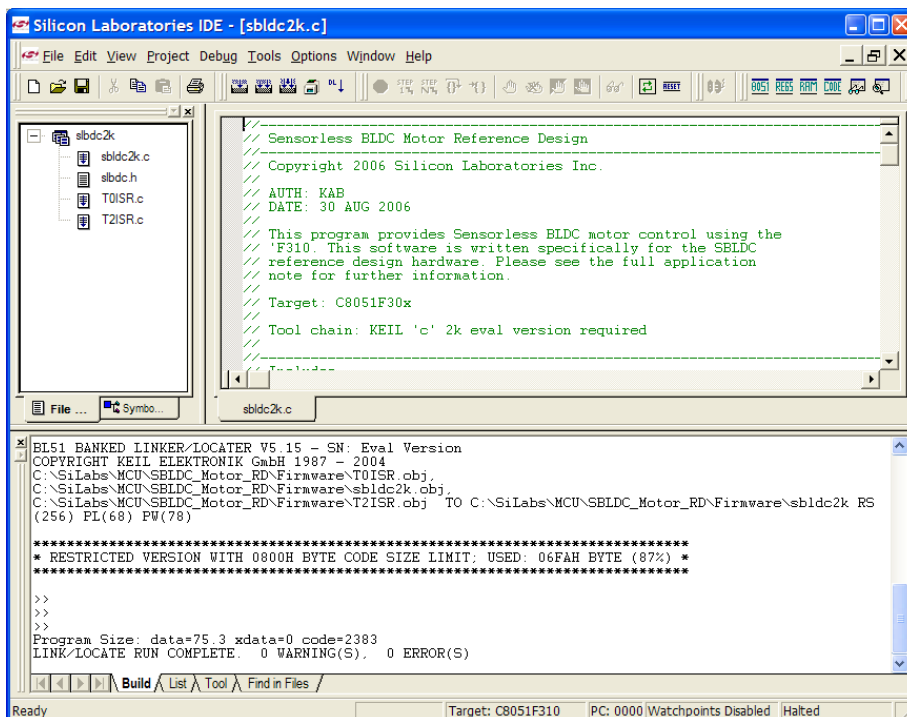

Figure 9. Sensorless BLDC Motor Project
5. Select "Rebuild All" from the project menu or click on the "Rebuild All" button. (The IDE will compile and link the `sbldc.c` file as shown in Figure 9.)